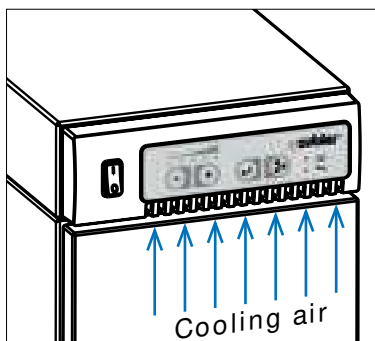

Fig. 4
- The suction unit must be able to draw cooling air from the front (Fig.4)